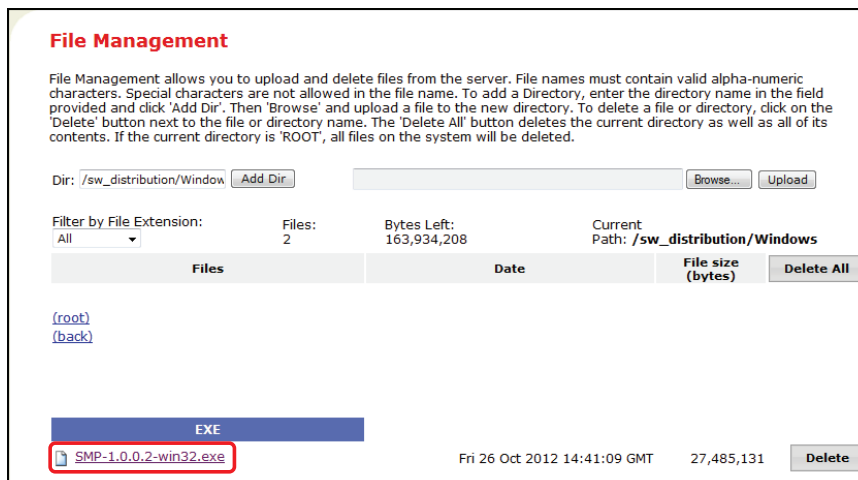

Figure 33. Select Windows, then SMP Software
4. Then select the **smp-1.0.0.2-win32.exe** file (see figure 33).